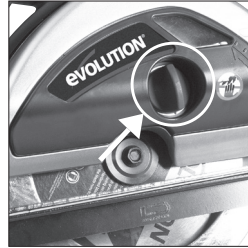

Fig. 1
- Remove the chip collector from the machine by undoing the large thumb screw. **(Fig. 1)**